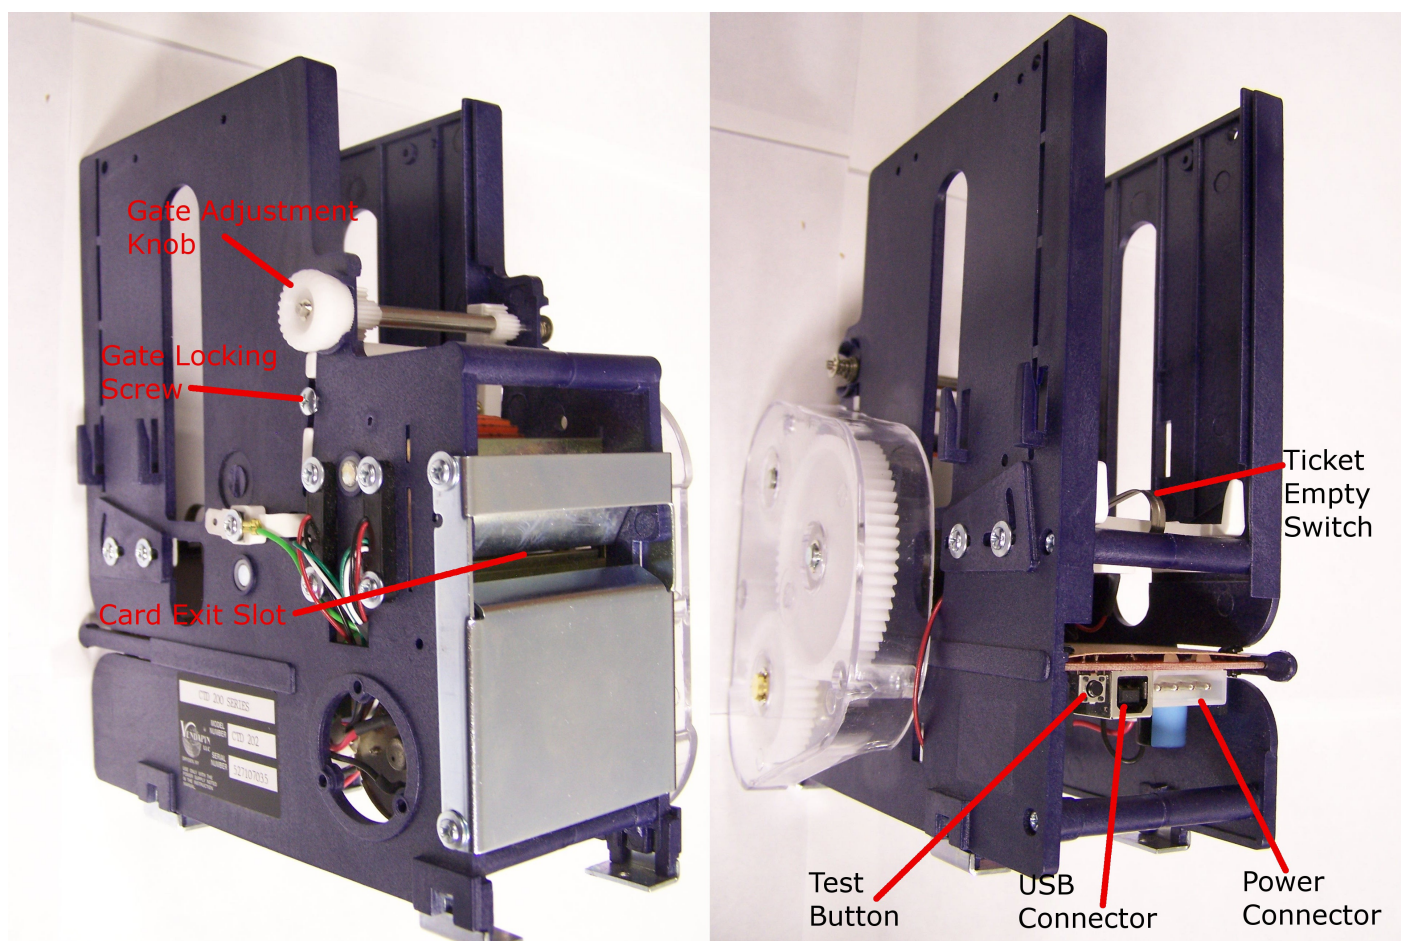

Figure 9: Ticket Dispenser
- i. Press the self test button on the back of the dispenser (see Figure 9)